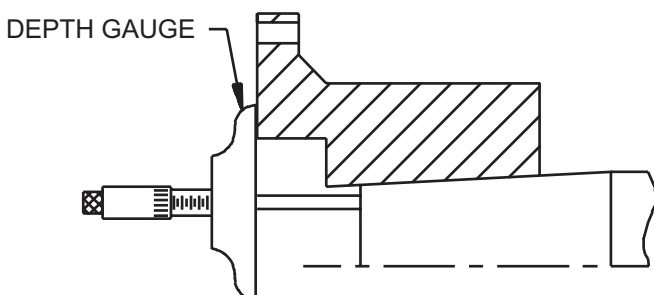

Figure 1. Measuring Hub Overhang
- 2.4 Clean the hub bore and shaft. For tapered bores, mount the hub hand-tight on the shaft and lightly rap it with a soft mallet to establish the initial line-to-line fit. This is the START position. With a depth gauge, measure the amount the hub overhangs the shaft end and record this value. See Figure 1.
- 2.7 Place the hub in the proper position on the shaft. Hold the hub in place as it cools. For tapered bores, verify the hub advance (see Figures 1 and 2) and install the shaft retaining nut. Remove the split collar from the shaft.